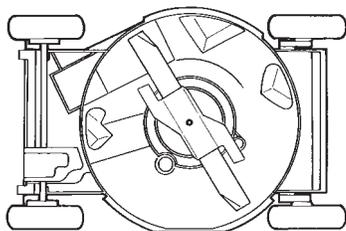

Figure 21
4. Tip the lawn mower on its left side (Fig. 21).